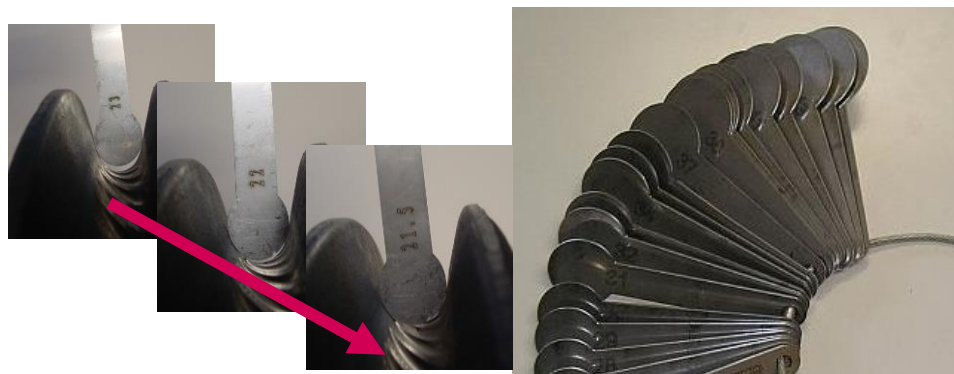

Fig. 6-68 Examples of radius detection of pulley groove arc
- The rope groove radius detection method as shown in Fig. 6-68